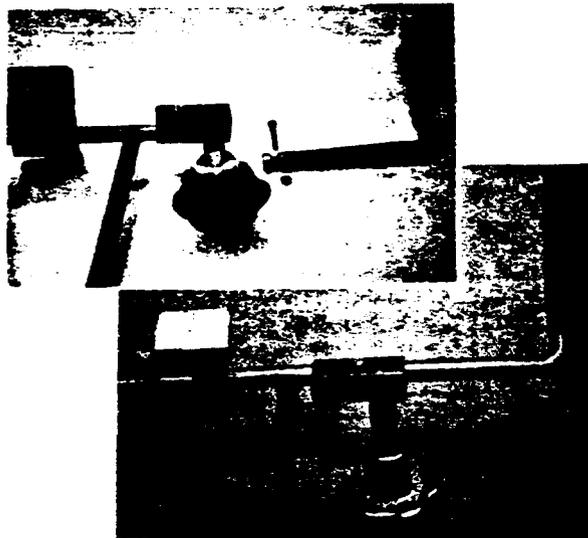

FIG. 15 SUPPORT ROD ARRANGEMENT (PAR. 4.211)
4.211 The support rod consists of two parts which must be preassembled: a bolt and nut which are provided, must be used for securing both parts of the bar together (See Fig. 15). Note that the ~~R4861 DET 3~~ Rod clamp ^{connects to support rod} connects to the ~~R4773 DET 1~~ Vise clamp. The vise clamp can be mounted to suit the installers preference.